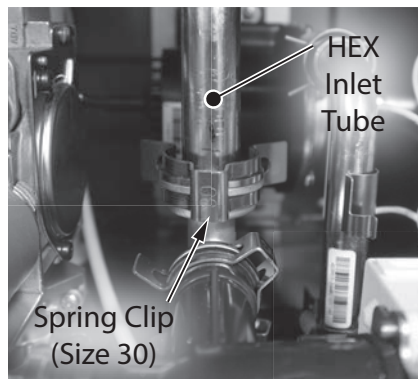

Figure 136 - Remove spring clip securing HEX inlet tube
**23** Locate the HEX inlet tube as shown in Figure 136. Remove the spring clip (size 30) securing the HEX inlet tube to the